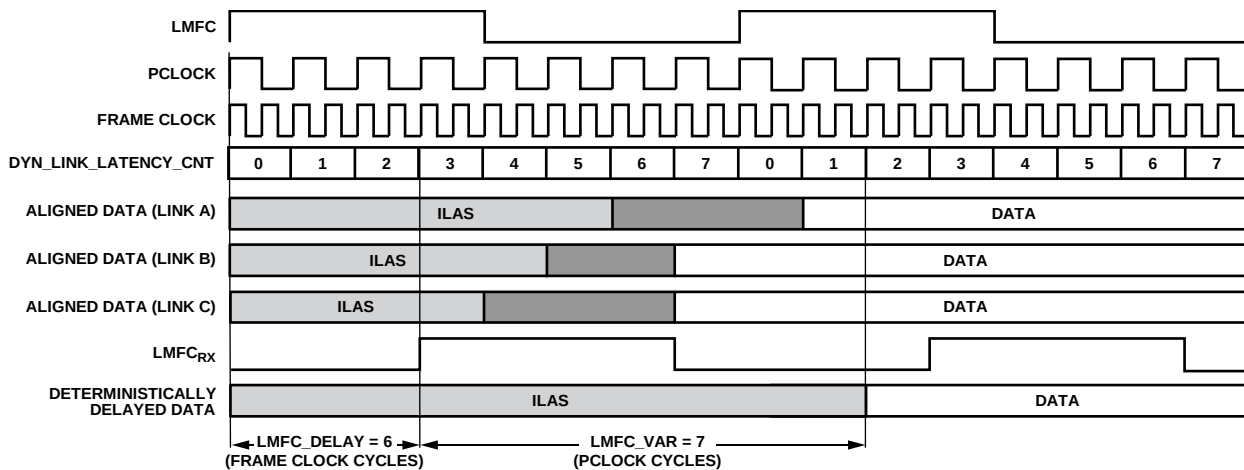

Figure 52. Multilink Synchronization Settings, Derived Method Example
Figure 52 shows how DYN_LINK_LATENCY_0 (Register 0x302) provides a readback showing the delay (in PClock cycles) between LMFC_{RX} and the transition from ILAS to the first data sample. By repeatedly power-cycling and taking this measurement, the minimum and maximum delays across power cycles can be determined and used to calculate LMFCVar and LMFCDeI.
The example shown in Figure 52 is demonstrated in the following steps according to the procedure outlined in the Without Known Delays section. Note that this example is in Subclass 1 to achieve deterministic latency, which has a PClockFactor (frame clock rate/PClockRate) of 2 and uses K = 16; therefore PClocksPerMF = 8.
1. In Figure 52, for Link A, Link B, and Link C, the system containing the AD9152 (including the transmitter) is power cycled and configured 20 times. The AD9152 is configured as described in the Device Setup Guide. Because the point of this exercise is to determine LMFCDeI and LMFCVar, the LMFCDeI is programmed to 0 and DYN_LINK_LATENCY_0 is read from Register 0x302.
The variation in the link latency over the 20 runs is shown in Figure 52 in gray.